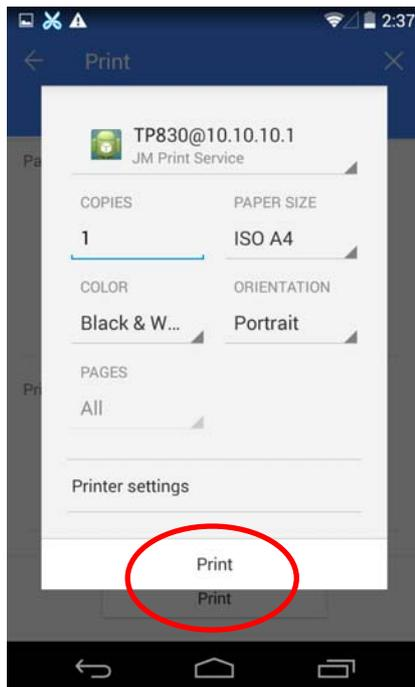

Figure 31
- 4.7 Make sure the printer and the corresponding printing parameters are correct, click “Print”, as shown in Figure 31;